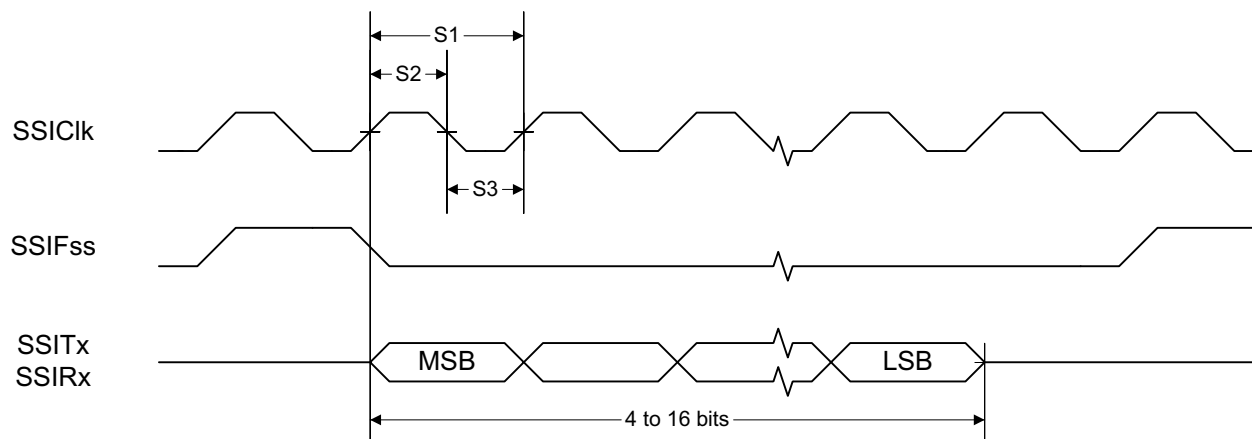
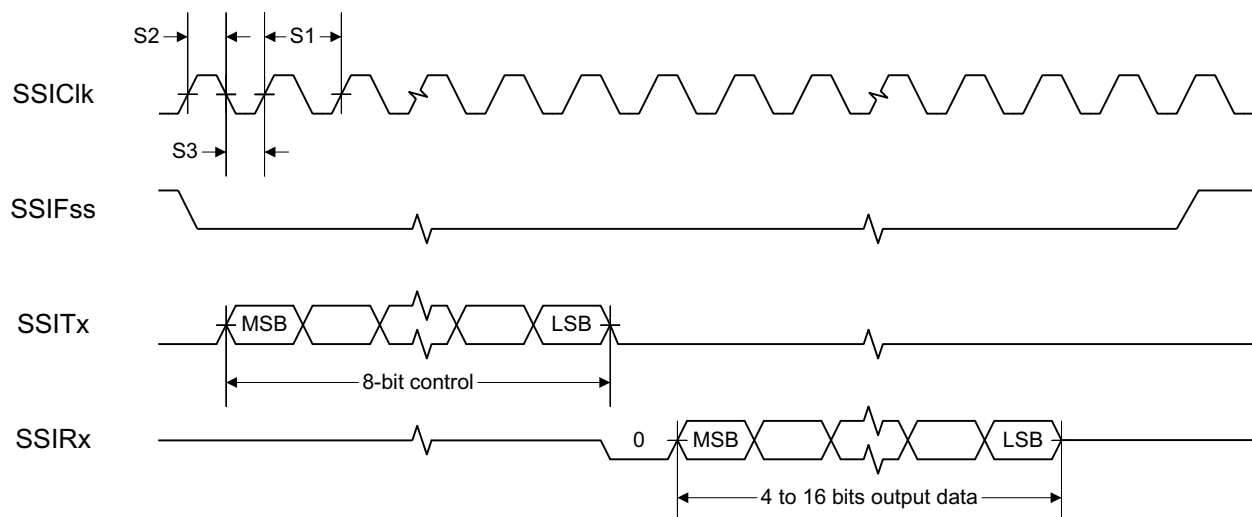
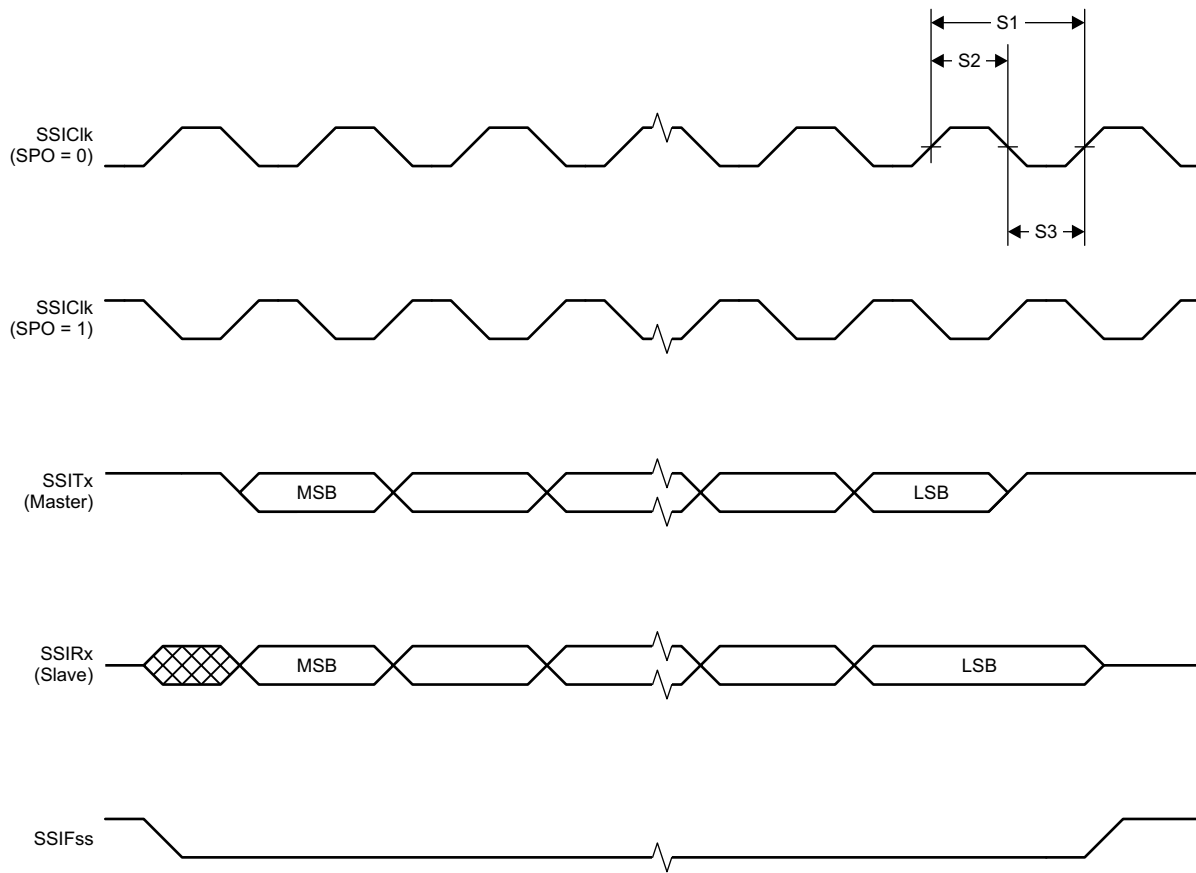

Figure 8-1. SSI Timing for TI Frame Format (FRF = 01), Single Transfer Timing Measurement
Figure 8-2. SSI Timing for MICROWIRE Frame Format (FRF = 10), Single Transfer
Figure 8-3. SSI Timing for SPI Frame Format (FRF = 00), With SPH = 1
(1) Refer to SSI timing diagrams Figure 8-1, Figure 8-2, and Figure 8-3.